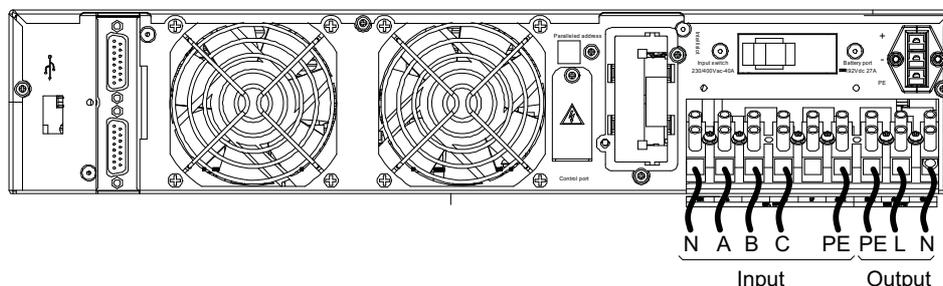

Figure 2-16 Cable connection for 3-in 1-out
2. Connect the mains input live line (phase A, phase B and phase C), N line and PE line respectively to the input live line terminal (U), input live line terminal (V), input live line terminal (W), input neutral line terminal and input ground line terminal of the UPS I/O terminal block. The input live line terminal (U1) is not connected, as shown in Figure 2-16.
3. Connect the output L line, N line and PE line respectively to the output live line terminal, output neutral line terminal and output ground line terminal of the UPS I/O terminal block, as shown in Figure 2-16.